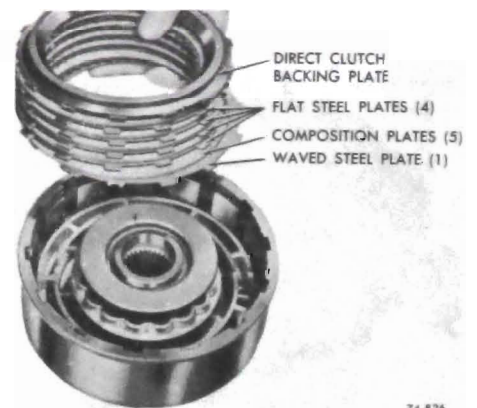

Figure 76-689
and install five (5) composition, four (4) flat steel, and one (1) waved steel plate (plate with "U" notch, starting with the waved steel and alternating composition and steel. See Figure 76-689.